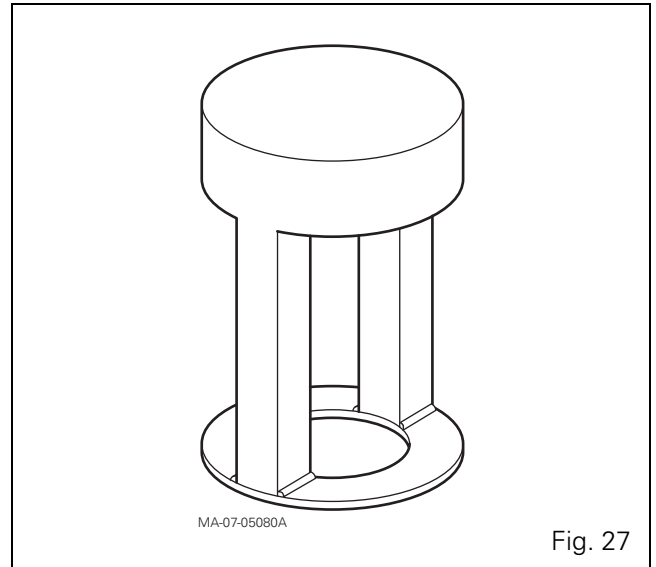

Fig. 27
- 3378135M1: Belleville washer compression tool (Fig. 27)